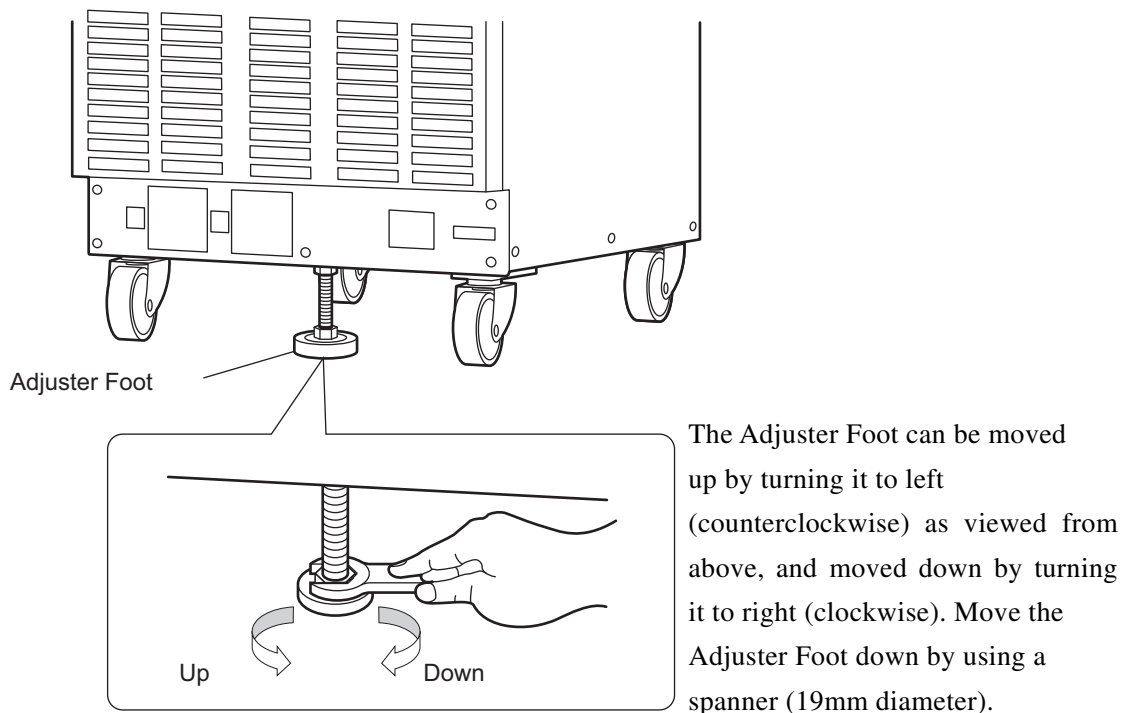

Figure 2-1 How to Use the Adjuster Foot (Caster Type)
- Do not install this product on a sloped surface. The Adjuster Foot (included within caster type) is only for temporary fixing, and cannot support the unit's own weight. You also must not lean on this product or use it as a support. How to use the Adjuster Foot is shown in Figure 2-1.